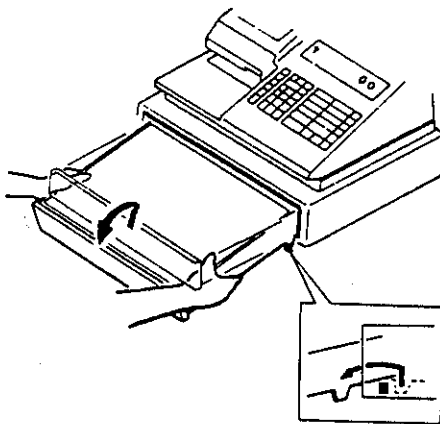

Fig. 2
1. Pull the drawer out, and when it stops at the stopper, lift the drawer up and pull it further out (Fig. 2). When it stops again at the roller fixed in the drawer housing, lift it and pull it out (Fig. 3).